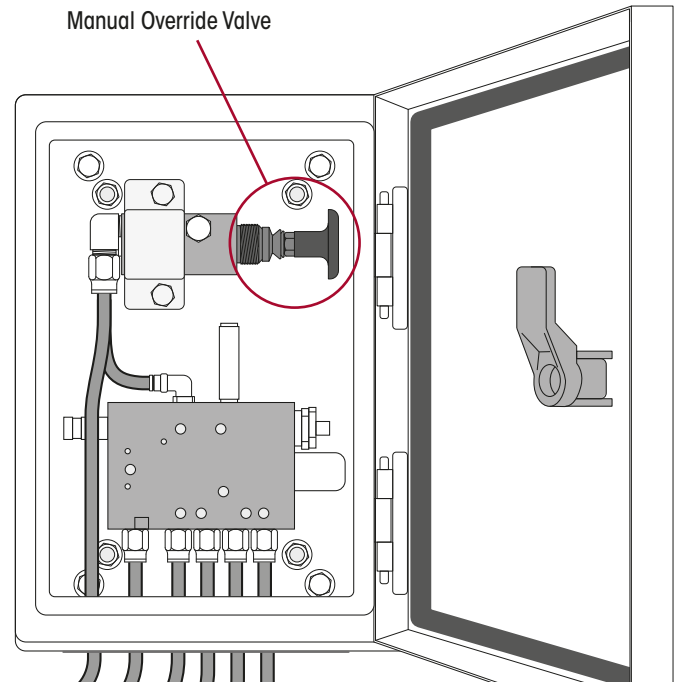

Figure 4: Manual Override Valve for Auto/Auto Lift Axle Control
4. Pull out the manual override valve, which will lower the lift axle. Refer Figure 4.